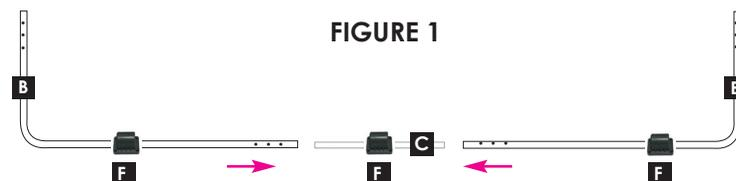

FIGURE 1
Insert one COUPLER (C) into a MOUNTING BRACKET (F) and center. Insert the long end of the LOWER CORNER ARMS (B) into the outer two MOUNTING BRACKETS (F) and connect into the COUPLER (Figure 1).